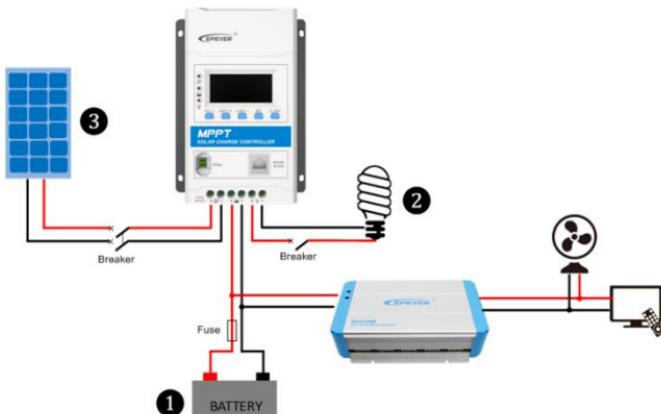

Figure 2-2 Schematic of wiring diagram
Step 2: Connect the system in the order of ① battery  → ② load  → ③ PV array  in accordance with Figure 2-2, "Schematic Wiring Diagram" and disconnect the system in the reverse order ③ ② ①.